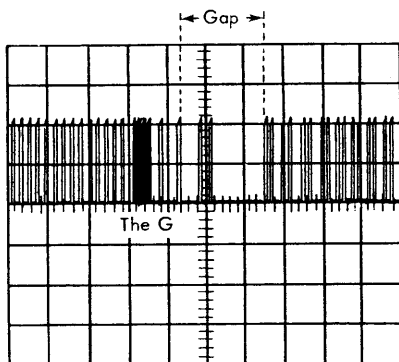

Figure 20. Write Oscillator Adjustment
12. If you can see the "G" (bright spot), change core switches to core character 97 and proceed with step 13 (Figure 20). If not, increase the oscillator frequency by inserting the single shot adjusting tool into the base of the pluggable unit at 2D6 (clockwise decreases oscillator frequency) until the "G" appears, then proceed with step 13.